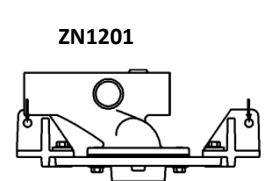

Figure 7c
- For ZN1201, see **Figure 7c**.